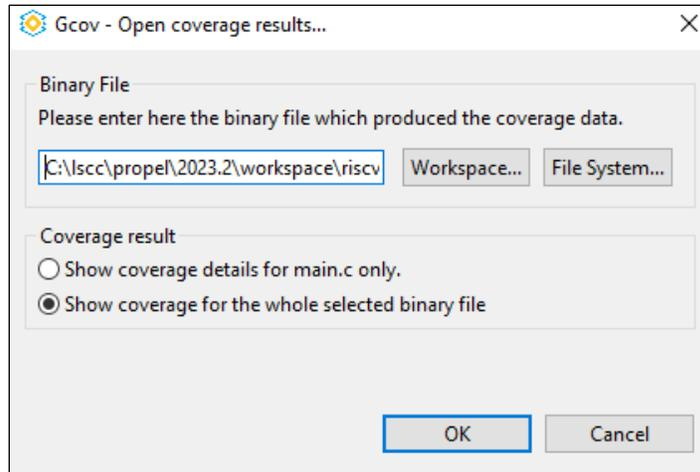

Figure 5.6. Open Coverage Results
2. Double click one of the coverage files (**Figure 5.6**) and click **OK**.